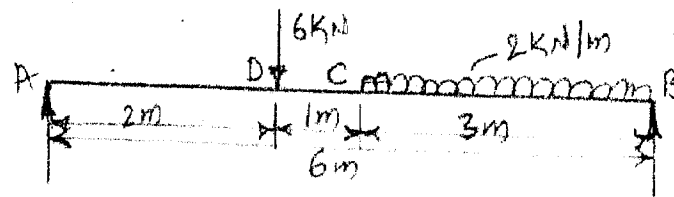

Fig. Q7 (b)
- b. A beam AB of span 6 m is simply supported at the ends and is loaded as shown in figure Q7 (b). Determine i) deflection at C ii) maximum deflection and iii) slope at the end A. Take $E = 2 \times 10^5 \text{ N/mm}^2$, $I = 2 \times 10^7 \text{ mm}^4$. (15 Mark)